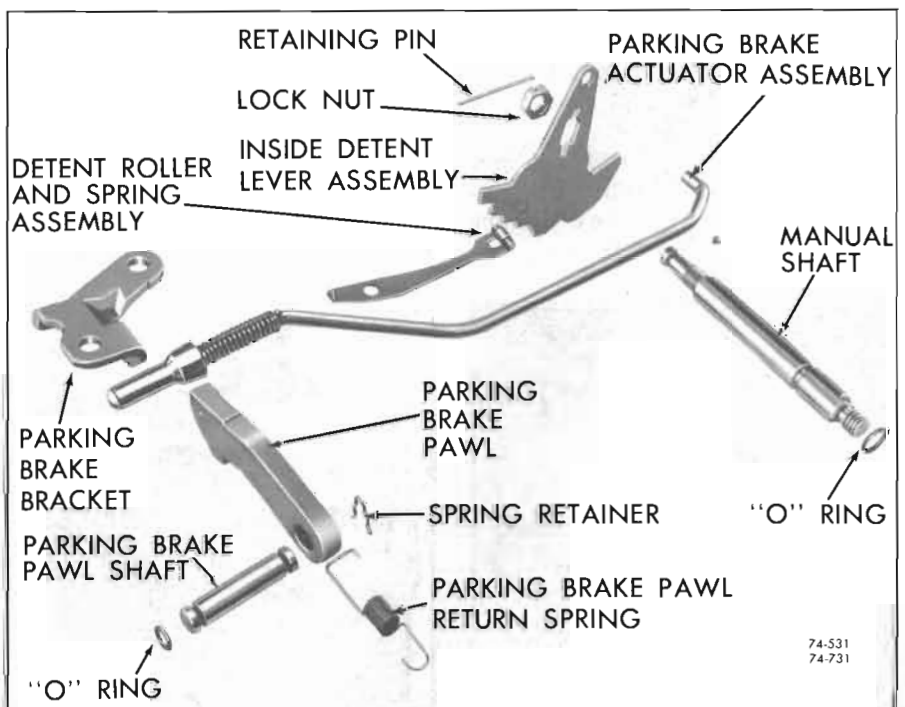

Figure 74-531
d. Remove manual shaft and jam nut from case. Remove "O" ring from shaft. See Figure 74-531.